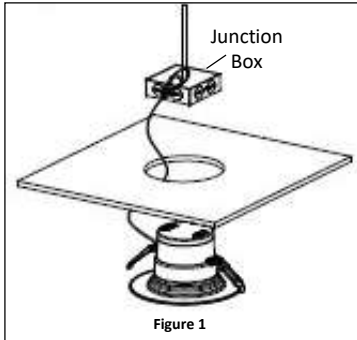

Figure 1
3. Connect the safety cable to a secure structure such as a junction box (Sold Separately). **See Figure 1.**